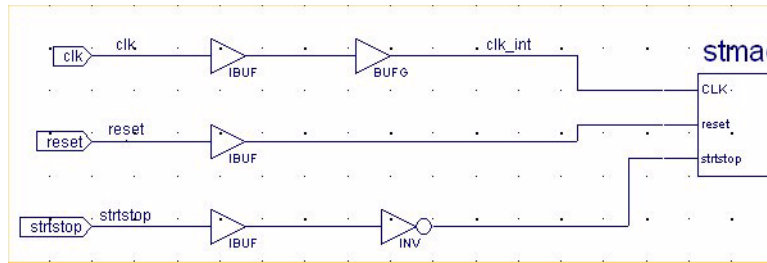

Figure 2-33 Labeled Nets
3. Place the name on the leftmost end of the net as illustrated in Figure 2-33.